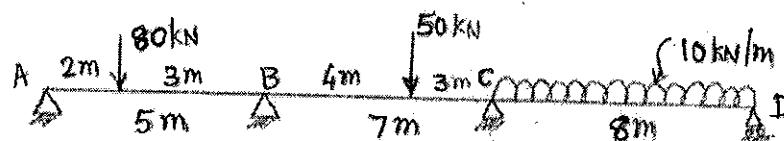

Fig.Q.7.
- 7 Analyze the continuous beam shown in Fig.Q.7 and draw Bending moment diagram, shear force diagram and elastic curve. (20 Marks)